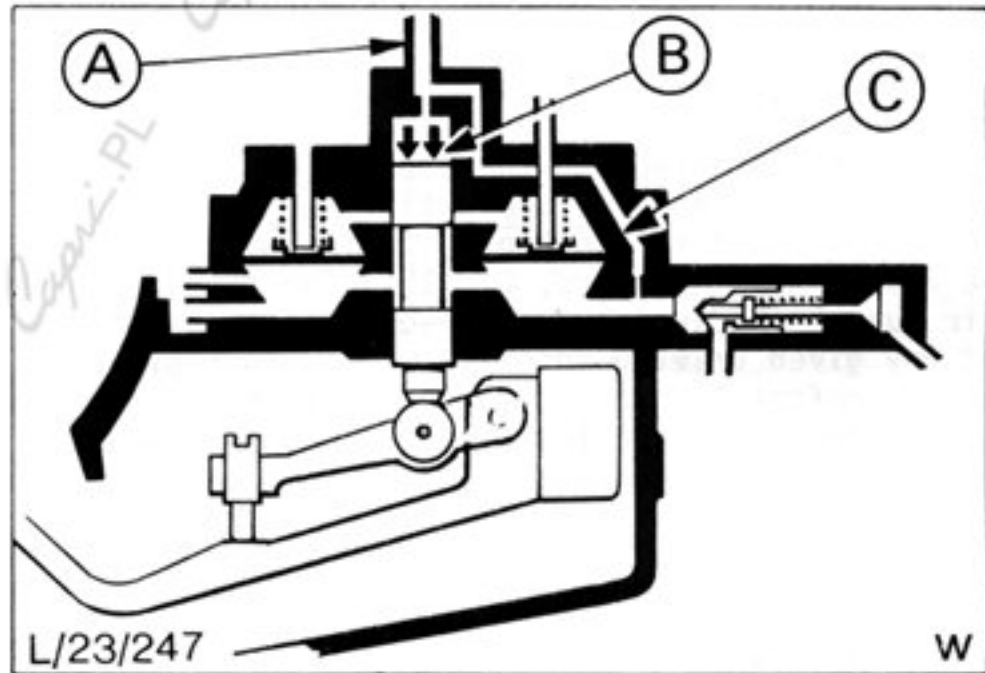

Fig.12. Fuel distributor assembly.
1. Air Sensor Plate and Control Plunger. Fig.12.
To ensure that the air sensor plate does not 'pulse' or 'bounce' in the air funnel, fuel, fed from the main system acts on the top face of the plunger. This dampens the operation of the plunger and stabilises the air sensor plate under all operating conditions. Refer Fig.12.